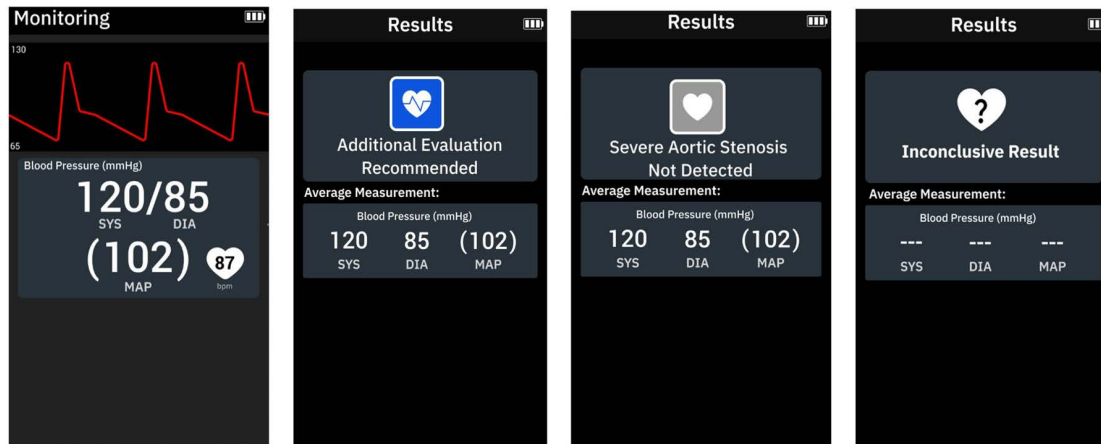

Figure 14-21 Example ASI outputs and display user interface
The ASI algorithm calculates the likelihood of severe aortic stenosis using continuous reconstructed arterial blood pressure. It is able to provide an output as soon as 1 minute and may take up to ten (10) minutes from running the algorithm depending on the quality of blood pressure waveform signal. Figure 14-21 provides example displays of the user interface with possible results. The results include: